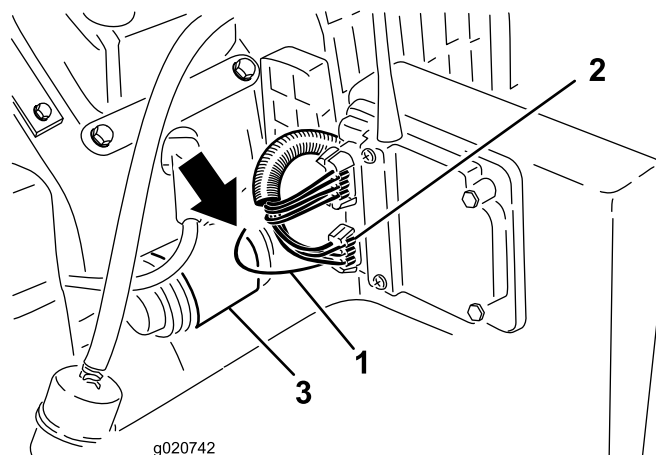

Figure 22
1. Locate the yellow with black stripe wire which is tucked into the wire harness tubing coming from the 6 pin connector at the receiver (Figure 22). Pull the wire out of the tubing.